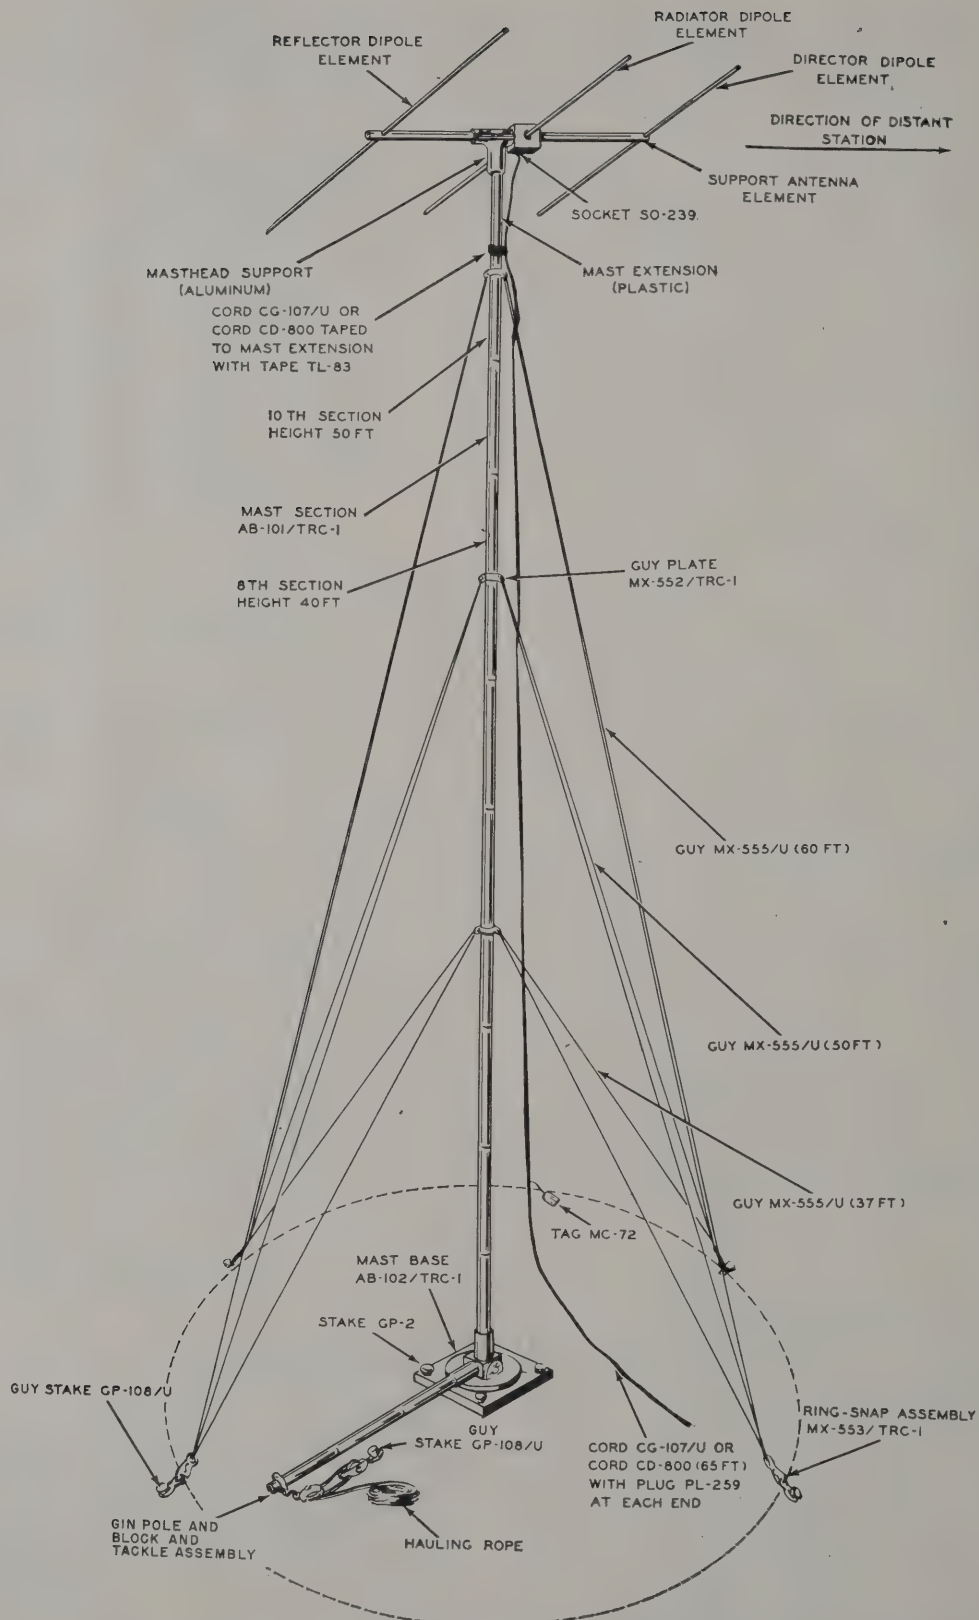

Figure 63. D, E, or F model of antenna system, erected.
- (9) Remove the gin pole guy plate from the gin pole but leave it attached to the block and tackle assembly to prevent its loss. Place the block and tackle next to the gin pole stake in a position ready for use when the mast is to be lowered. For semipermanent or permanent installations, replace the block and tackle assembly in Bag BG-102-(*).
- (10) The mast and antenna array can now be rotated through 360° by using the gin pole as a lever. This does not disturb the guys in any way, but Cord CD-800 or CG-107/U must be passed outside of each set of guys as each set is encountered.
- (11) Mark one Tag MC-72 with the frequency range of the antenna just erected, and tie it about 5 feet off the ground (fig. 63) on Cord CD-800 or CG-107/U attached to the masthead.
- (12) Install other Antenna Systems AS-19(*)/TRC-1, using a 50-foot mast, in the manner described above.
- (13) Connect the plug on the bottom end of Cord CD-800 or CG-107/U to the ANTENNA connector on Radio Transmitter T-14H/TRC-1, the ANTENNA connector on Amplifier AM-8(*)/TRA-1, or the ANT. INPUT connector on Radio Receiver R-19H/TRC-1.